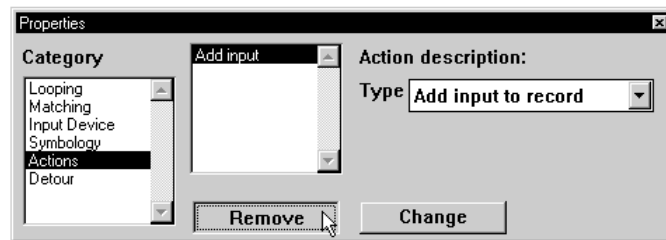

Figure 4-19 Remove Add Input Action
21. Click **Remove** to delete the action from the list (Figure 4-19).